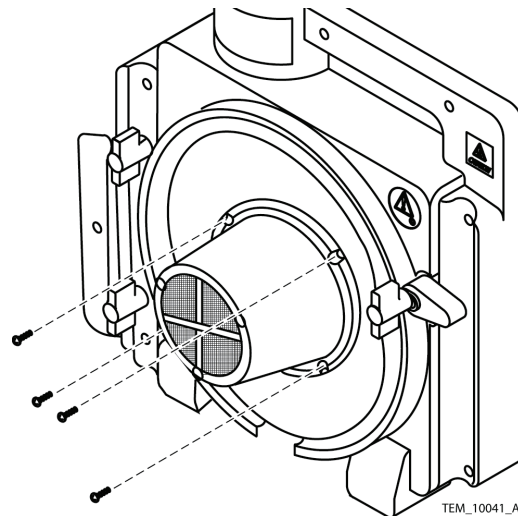

Figure 79. Blower Screws
36. Install the blower assembly mounting screws into the rear cover assembly. Tighten the screws to 4 to 6 in/lbs (10 to 15 cm/kg). See Figure 79.